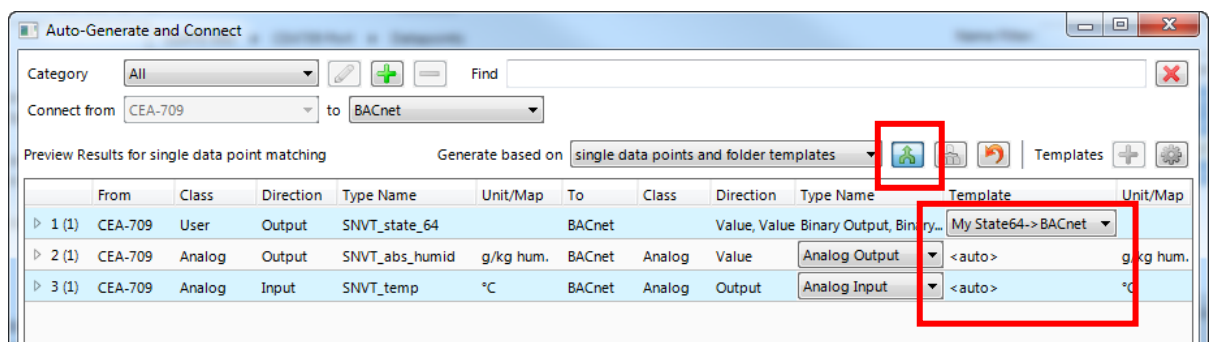

Figure 49: Auto-generate and connect with auto-generate template.
- Select an auto-generate template in the drop-down box of the **Template** column as shown in Figure 49.